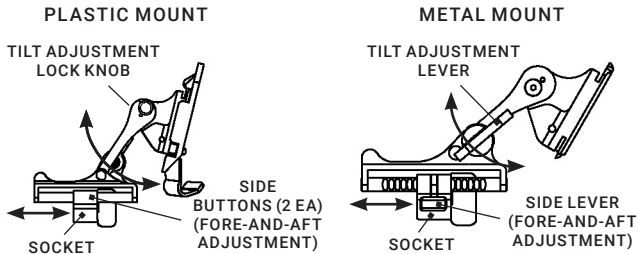

FIGURE 2-15. TILT AND FLIP-UP ASSEMBLY MECHANISMS
Set your eye relief by depressing the side buttons (or, if using a metal mount, the side lever) (Figure 2-15) and carefully move the monocular until the eyecup comfortably seals around your eye. Adjust the helmet straps vertically as needed.
- Turn the device ON. Adjust the tilt using the tilt adjustment lock knob (a lever on the metal mount, see Figure 2-15), until you obtain a comfortable viewing angle.
- Adjust eye relief distance by holding the side buttons (or lever, if using a metal mount) down (Figure 2-15) and sliding the monocular back and forth until you obtain a full view of the image. Adjust the diopter for the sharpest image.